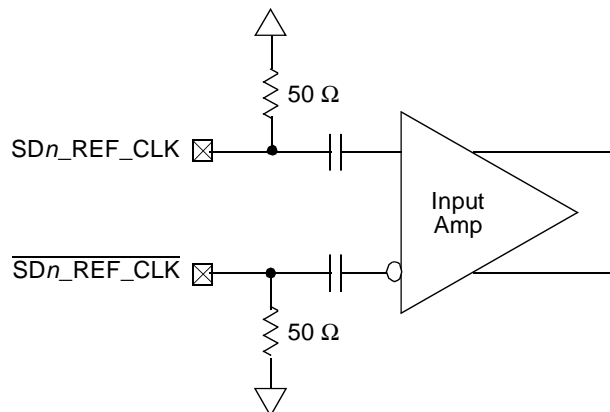

Figure 44. Receiver of SerDes Reference Clocks
Figure 44 shows a receiver reference diagram of the SerDes reference clocks. Characteristics are as follows:
- The  $\overline{SDn\_REF\_CLK}$  and  $SDn\_REF\_CLK$  are internally AC-coupled differential inputs as shown in Figure 44. Each differential clock input ( $\overline{SDn\_REF\_CLK}$  or  $SDn\_REF\_CLK$ ) has on-chip 50- $\Omega$  termination to  $SGND\_SRDSn$  (xcorevss) followed by on-chip AC-coupling.